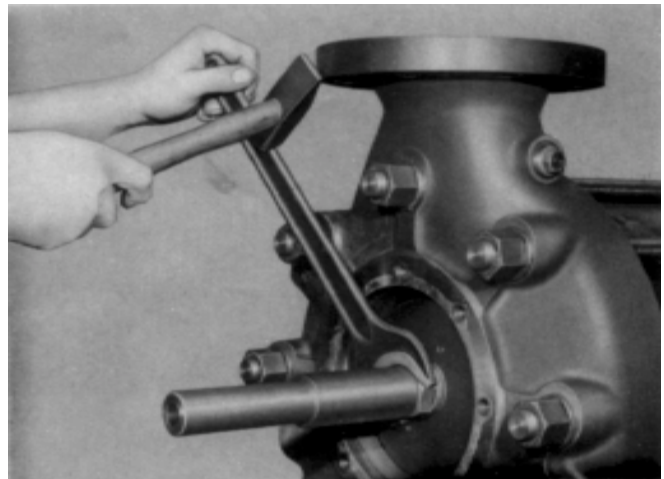

Fig. 35 Slackening shaft protection sleeve (524.2).
- Slacken shaft protection sleeve (524.2) and remove it from shaft (210). (see Fig. 35)